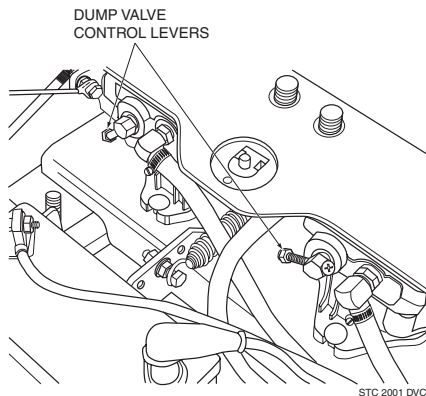

Figure 4-2. Dump Valve Control
11. **Dump Valve Control Levers (Figure 4-2).** Located on the hydraulic pumps, used to "free-wheel" the mower. Rotating the levers clockwise until they stop allows the unit to move under hydraulic power. The levers must be in this position and torqued to 10ft/lbs during operation of the mower. Rotating the levers counter-clockwise allows the mower to be moved by hand (free-wheeling).